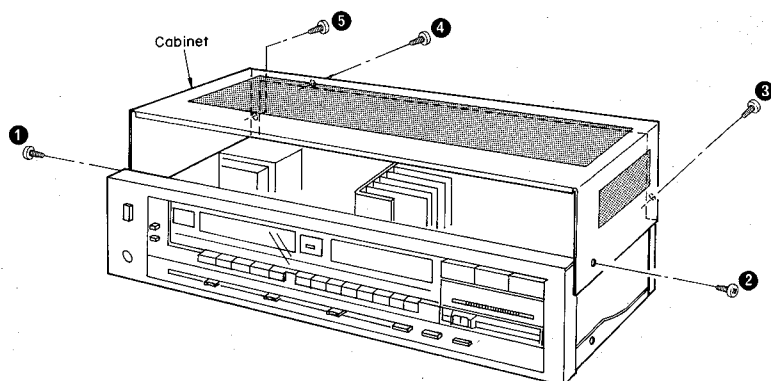

Fig. 3
1. Remove the 2 setscrews (Fig. 3 : ①, ②) on the side and 3 setscrews (Fig. 3 : ③ ~ ⑤) on the back of the cabinet.